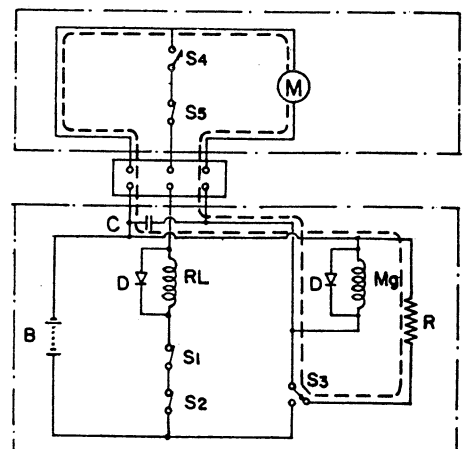

Fig.4
4. Resistance circuit (Fig. 4):